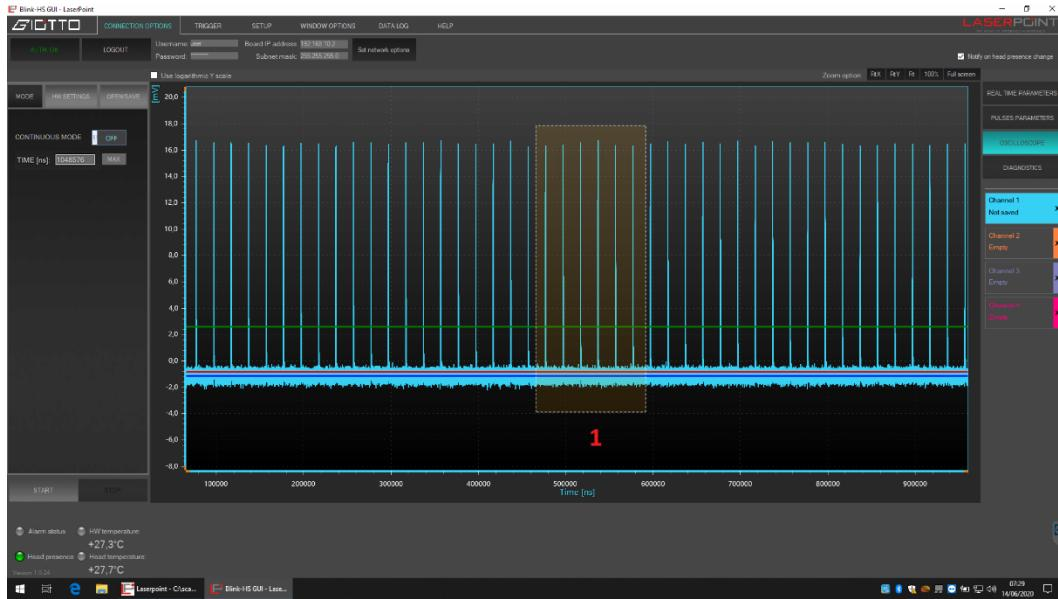

Figure 16
6. In order to magnify a part of the pulse train, click and drag the corresponding area (**1, fig.16**)